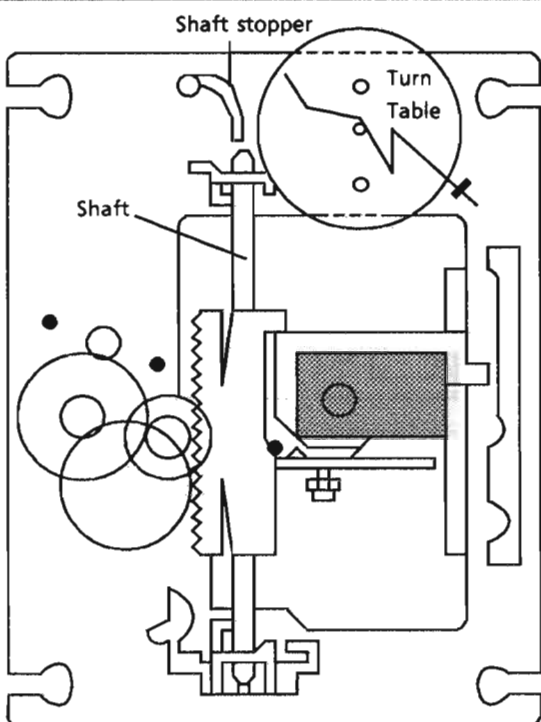

Fig 12 CD mechanism assembly
2. Release the shaft to remove the pickup (Fig 12).